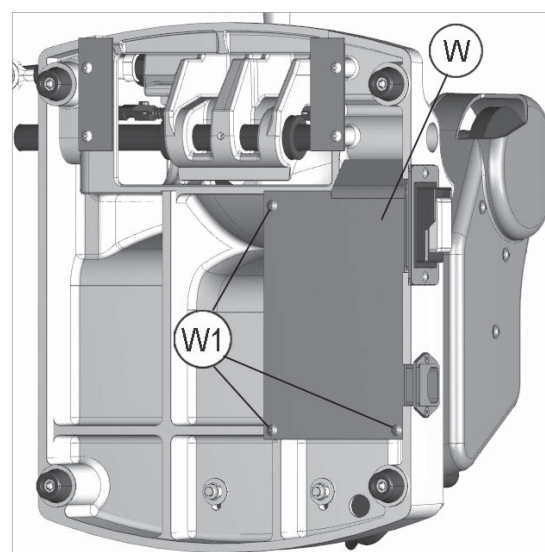

Fig. 41
- 4) Loosen the 3 screws (W1) and remove the plate (W) (Fig. 41).